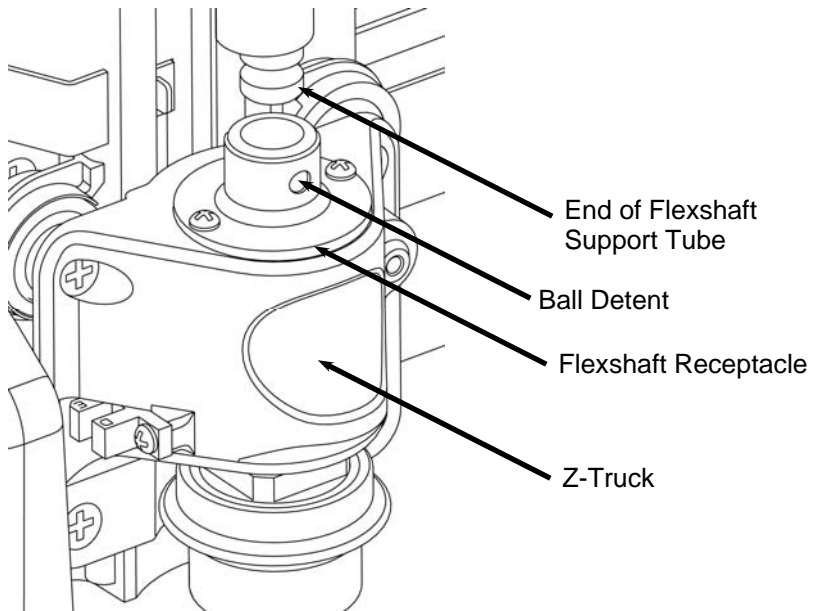

FIGURE 3: VIEW OF THE FLEXSHAFT CONNECTION TO THE Z-TRUCK
3. **Detach the flexshaft from the top of the Z-truck:** The flexshaft assembly is retained by a ball detent located in the flexshaft receptacle (See Figure 3). Firmly grasp the flexshaft support tube while reaching under the clear front cover with your other hand to grab the Z-truck. Pull up firmly on the flexshaft support tube and twist slightly while bracing the Z-truck. **DO NOT PULL ON THE SHEATH.** The flexshaft will pop out of the detent.